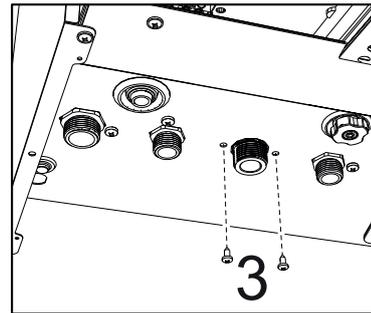

fig. 52 -
- Loosen the screws "3" ("fig. 52 -")